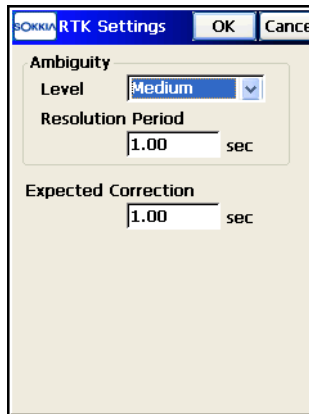

Figure 4-27. RTK Settings
17. To set ambiguity resolution parameters for RTK engine, select the *RTK Settings* option from the menu in the upper left corner of the *Advanced* screen. In the *RTK Settings* screen, set appropriate parameters (see Figure 4-27 on page 4-21).